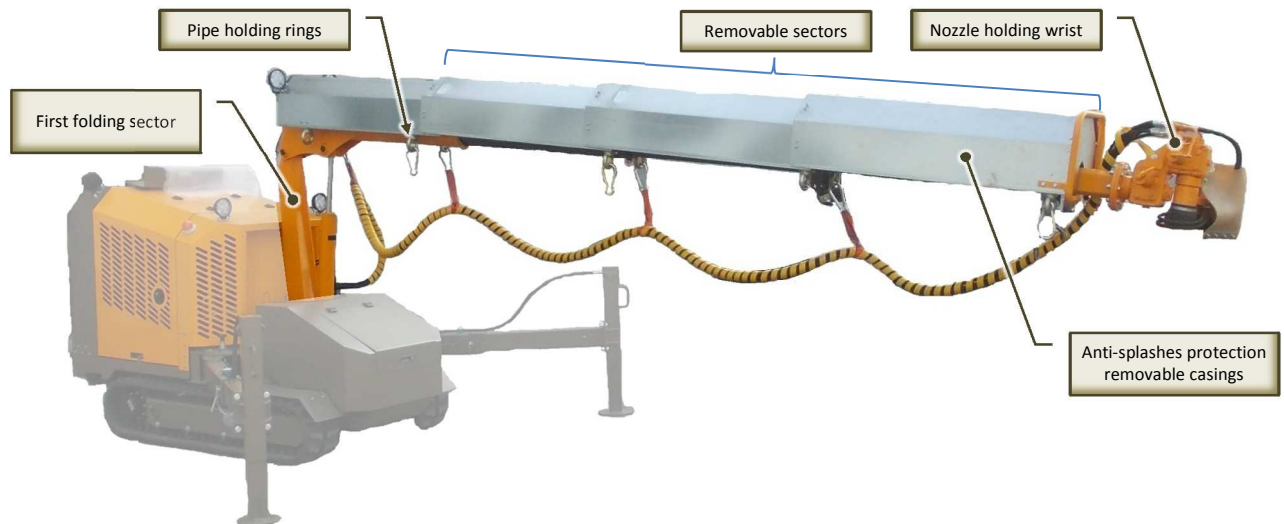

Fig. 6.1-3 - Mobile boom
- A first folding sector (Fig. 6.1-3), hydraulically operated, for raising/lowering the boom;
- Three removable sectors (Fig. 6.1-3), hydraulically operated, to extend the boom;
To protect the boom from any concrete splashes/projections, the removable sectors are surmounted by protection casings (Fig. 6.1-3) which, when the boom is fully retracted, are stacked one on top of one another.
In the lower part of the removable sectors there are rings (Fig. 6.1-3) on which to hook the support straps of the hydraulic pipes and of the pipes supplying the product to be sprayed.